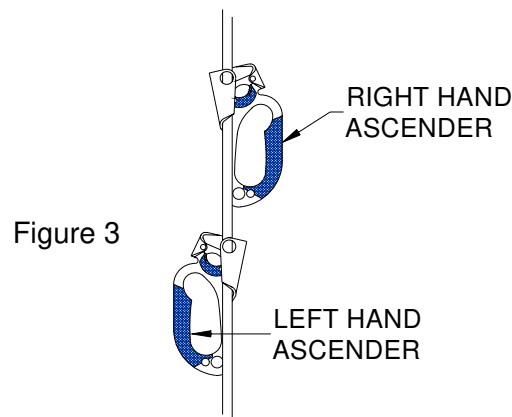

Figure 3
4. Repeat process with right hand ascender and install on rope above the left hand ascender. See Figure 3.